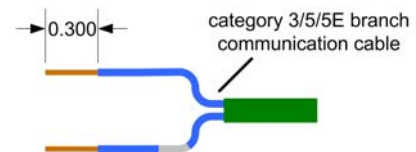

Figure 4. Preparing Communication Conductors
- Step 4: Remove 0.3 in. of insulation from the communication cable's blue and blue/white conductors, as shown in Figure 4.